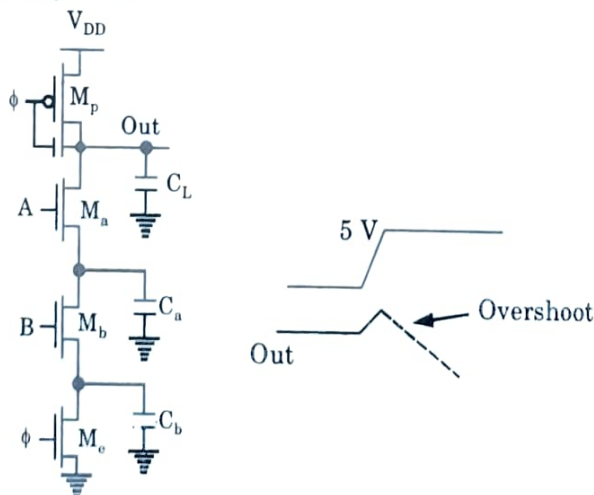

Fig. 3.7.4. Clock feed through.
1. The clock signal is coupled to the storage node by the gate-source capacitance and the gate-overlap capacitance of the precharge device as shown in Fig. 3.7.4.